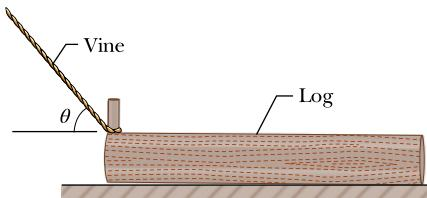

Figure 12.67 Problem 78.
**78 Moving heavy logs.** Here is a way to move a heavy log through a tropical forest. Find a young tree in the general direction of travel; find a vine that hangs from the top of the tree down to the ground level; pull the vine over to the log and wrap it around a limb on the log; pull hard enough on the vine to bend the tree over; and then tie off the vine on the limb. Repeat this procedure with several trees. Eventually the net force of the vines on the log moves the log forward. Although tedious, this technique allowed workers to move heavy logs long before modern machinery (such as helicopters) was available. Figure 12.67 shows the essentials of the technique. There a single vine is shown attached to a branch at one end of a uniform log of mass  $M$ . The coefficient of static friction between the log and the ground is 0.80. If the log is on the verge of sliding, with the left end raised slightly by the vine, what are (a) the angle  $\theta$  and (b) the magnitude  $T$  of the force on the log from the vine?